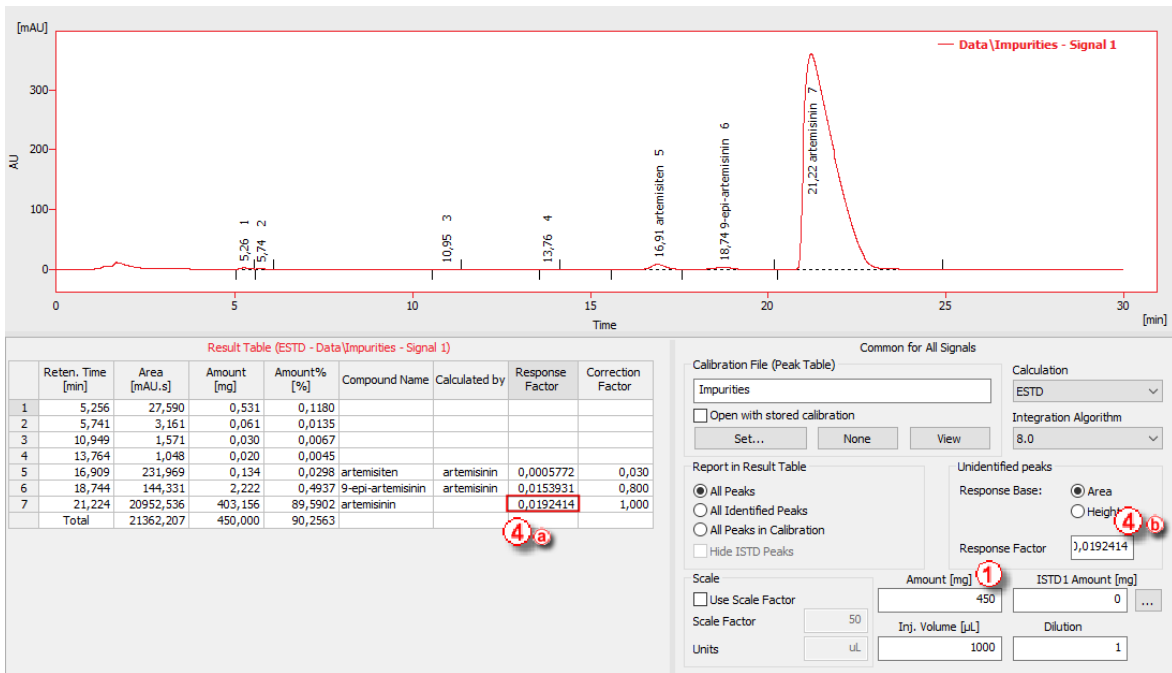

Fig. 5 – Calculated results for percent content determination of the impurities
This calibration should be linked to the sample chromatogram, and it is necessary to amend a few more settings within the chromatogram window to perform the calculations within Clarity in correspondence with the given equations. The adjustments should be inserted in the calculation pane on the right side of the result table. It is necessary to fill in the sample weight in the Amount ① field. To select artemisinin as the calculation basis of the given equation, it is necessary to copy the response factor of artemisinin from the chromatogram Result Table (Response Factor column ④ a) to the Response Factor field ④ b) in the Calculation pane. The described setting is shown in Fig. 5.